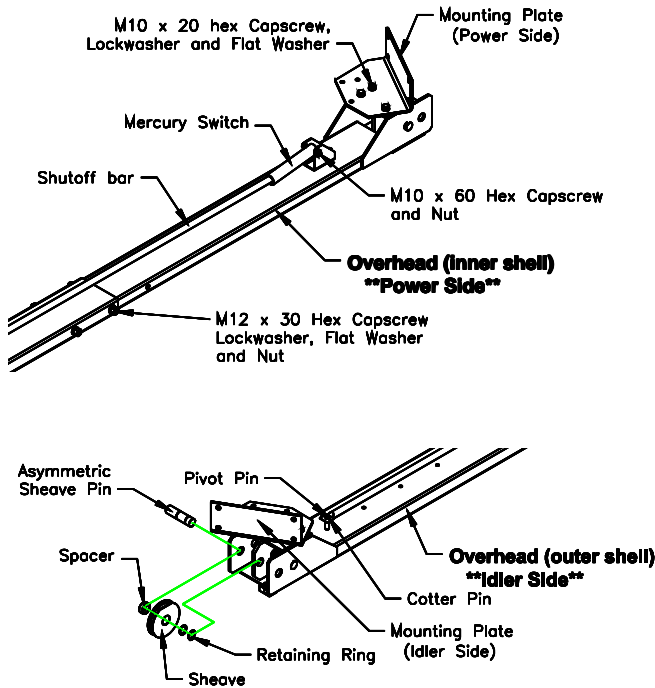

Fig 6 – Asymmetric Overhead Assembly
- 14) Remove the pre-assembled Symmetric Sheave Pin, Sheave and Spacers. Re-assemble the Sheaves, Spacers using the Asymmetric Sheave Pins and Snap rings provided. The Asymmetric Sheave Pin has 2 Snap Ring grooves; the end with the Snap Ring groove nearest should be inserted first. Refer to Figs 6 and 7.